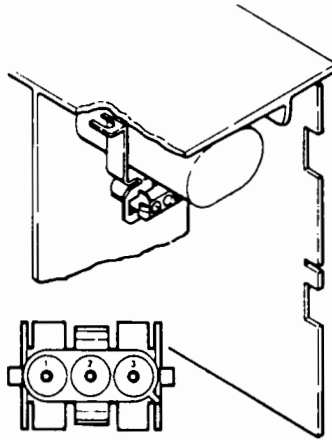

Figure 1. Line Art
**Line art** usually consists of lines and shapes that can be drawn by hand. Most graphs, line drawings, charts, text, newspapers pictures, and hand-drawn pictures fall into this category. See Figure 1.
**Pictures** are more complicated than line art they have different levels of shading. In this category are black and white photographs, color photographs, shaded drawings, and magazine pictures. See Figures 1 and 2.